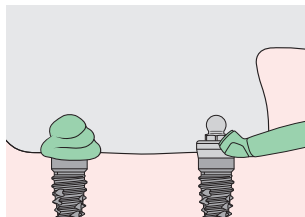

Fig. 6
- (Fig. 6): A medium or high viscosity impression material is recommended, e.g. vinyl polysiloxane or polyether rubber. Syringe the Dalbo® Certain® Abutment bubble free and then insert the impression tray loaded with impression material.